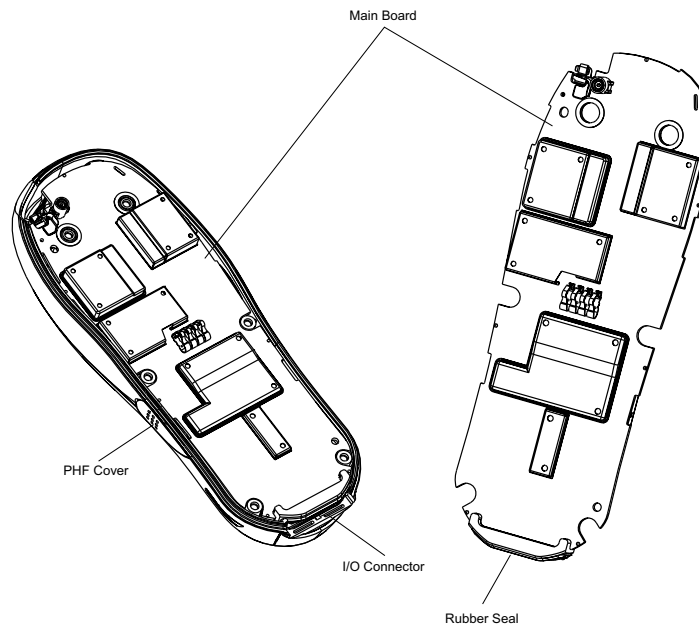

Figure 18 Main Board Removal and Installation
(See Figure 18)
3. Open the Personal Hands-Free Kit (PHF) jack cover (See Figure 18).